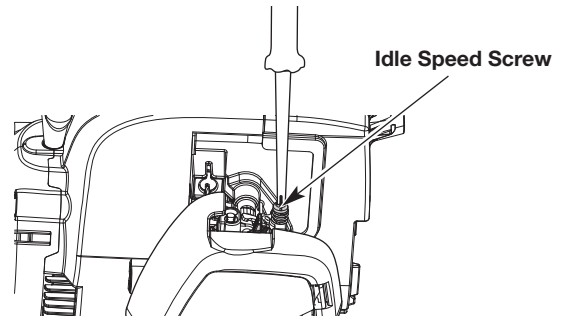

Fig. 18
- If the engine stops, increase the idle speed. Use a small Phillips screwdriver to turn the idle speed screw clockwise, 1/8 of a turn at a time, until the engine idles smoothly (Fig. 18).
- If the cutting head spins when the engine idles, reduce the idle speed. Turn the idle speed screw counterclockwise, 1/8 of a turn at a time, until the cutting head stops moving (Fig. 18).